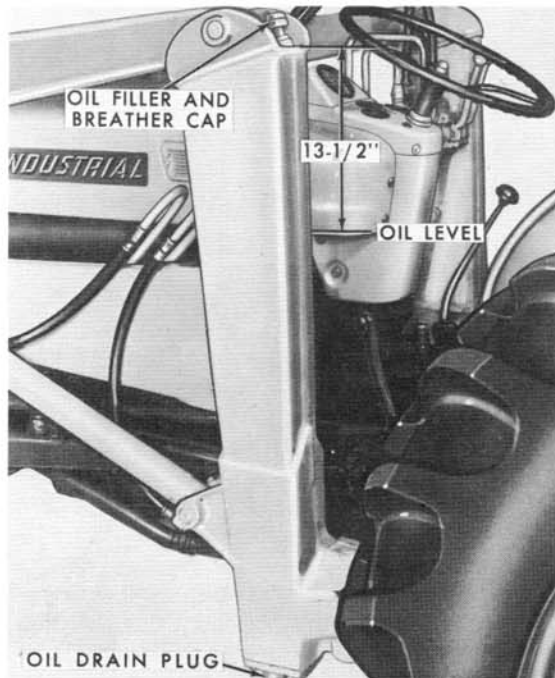

Figure 7
1. Check the fluid level in the hydraulic system daily. Maintain the level 13-1/2" from the top of the filler opening. See Figure 7.
1. Warm the oil by operating the loader, and place a drain pan under the left lift post. Remove the oil drain plug, Figure 7, from the bottom of the post. Allow the oil to drain.